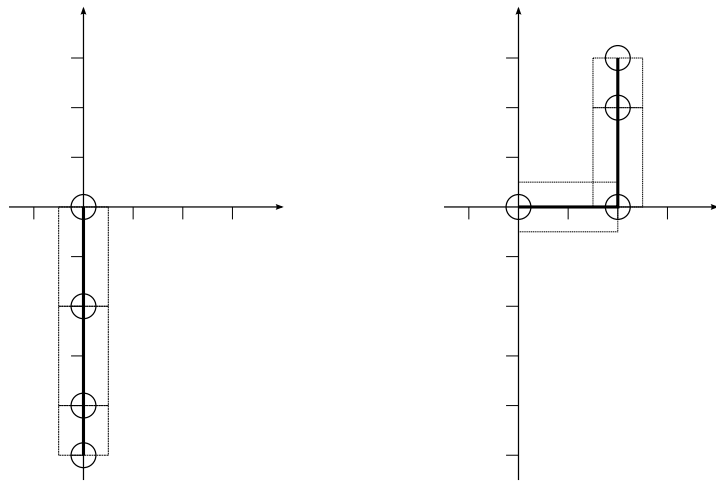

Figure 1: A simple arm at rest (left) and raised (right)
Suppose we have a model of a character's arm. The shoulder is at the origin, $(0,0)$, and when it is at rest the elbow is at $(0,-2)$, the wrist at $(0,-4)$, and the fingertips at $(0,-5)$, as shown on the left of Figure 1. We want to raise the arm so that it is raised, as shown on the right of Figure 1. In this pose, the elbow is at $(2,0)$, the wrist at $(2,2)$, and the fingertips at $(2,3)$.
3. What are the angles for the ‘rest’ position when the arm is lying along the negative y -axis, as illustrated on the left of Figure 1?
4. What are the angles when the arm is raised, as illustrated on the right of Figure 1?